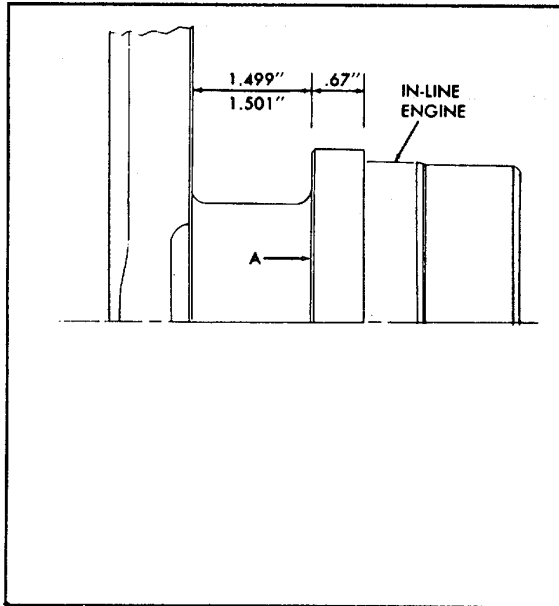

Fig. 10 - Standard Dimensions at Crankshaft Thrust Surfaces--in-Line Engines
6. If the thrust surfaces of the crankshaft (Fig. 10) are worn or grooved excessively, they must be reground and polished. Care must be taken to leave a .130" to .160" radius on the In-line crankshaft between each thrust surface and the bearing journal.
NOTE: If the crankshaft thrust surfaces were reground, it may be necessary to install oversize thrust washers on one or both sides of the rear main journal. Refer to Fig. 10 and Table 2.